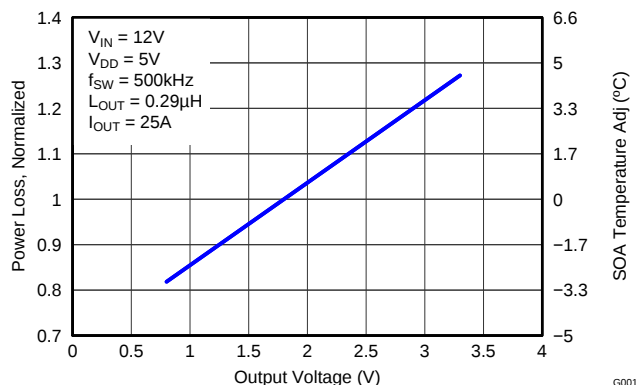

Figure 9. Normalized Power Loss vs Output Voltage
- Normalized Power Loss for output voltage  $\approx 1.11$  (Figure 9)
- SOA adjustment for output voltage  $\approx 1.5^{\circ}C$  (Figure 9)